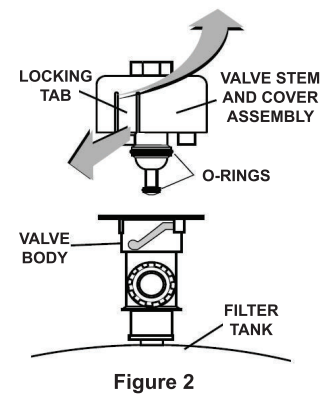

Figure 2
3. With the relief valve attached to the filter tank, pull out the locking tabs and remove the valve stem and cover assembly with a counterclockwise and lifting motion, see Figure 2.